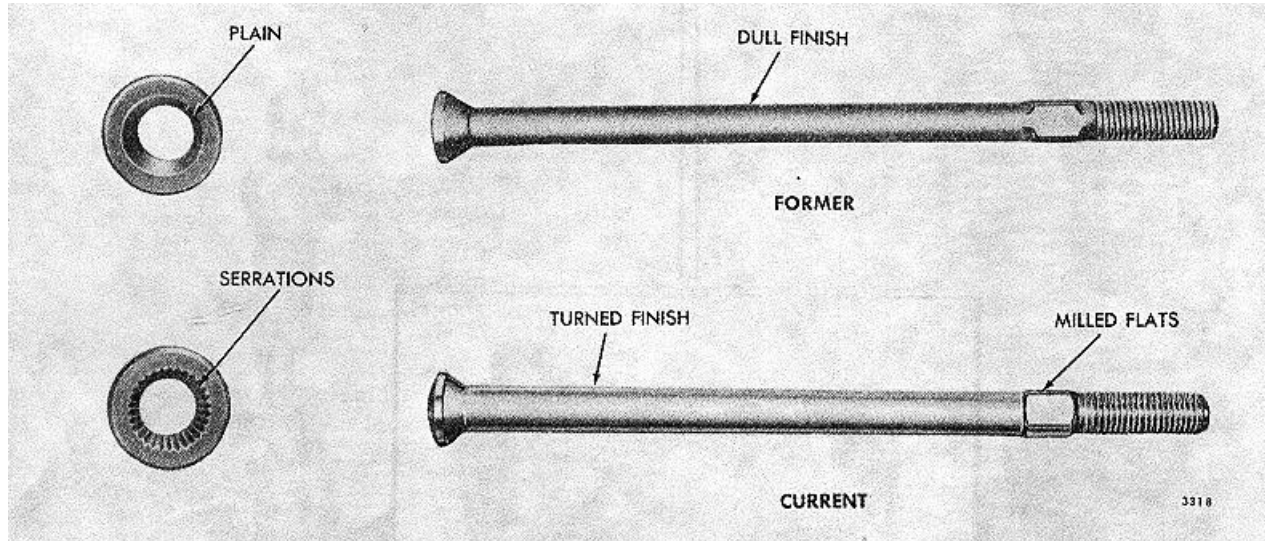

FIG. 6 - Comparison of Push Rods and Lower Spring Seats
Inspect the push rods and spring seats for wear. The current push rods have milled wrench flats and a bright "turned" finish and the lower spring seats are serrated along the push rod contact surfaces (Fig. 6).
NOTE: When replacing a push rod or lower spring seat, *do not* use a plain spring seat (Fig. 6) with a current type push rod. Any other combination of spring seat and push rod may be used.
2. Assemble the *serrated* lower spring seat (Fig. 6), spring and upper spring seat on the push rod.
1. Assemble the *serrated* lower spring seat (Fig. 6), spring, upper spring seat and lock nut on the push rod.